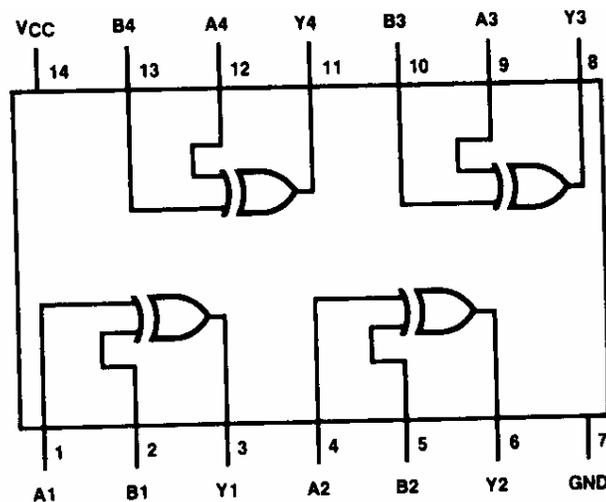
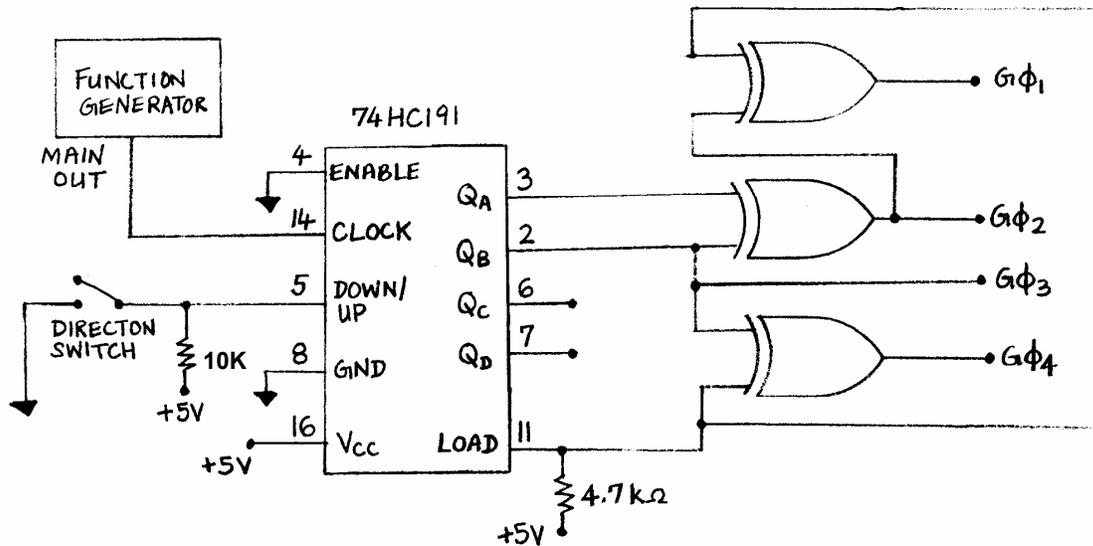

Figure 7: Connection diagram for 74HC86 Exclusive OR chip
Figure 8: Unipolar stepper motor full-step drive circuit
In this experiment, you will use a function generator and an analog drive circuit to control the rate of rotation of a unipolar stepper motor in full-step mode. Your analog drive circuit will consist of a binary counter chip and an exclusive OR (XOR) gate chip. For this laboratory, the XOR gate chip we will use is the **74HC86 Quad 2-Input Exclusive OR Gate** manufactured by *National Semiconductor Corporation*. This XOR gate chip has four XOR gates (Figure 7), but you will only need to use three of them for this Laboratory.
- Build* and connect the circuits shown in Figure 8. Don't forget to provide power ($V_{CC} = +5V$) and ground (GND) to your XOR gate chip.
* Hint: before building the circuit, refer to Figure 7 and select appropriate pins on your XOR chip to implement the logic circuit shown in Figure 8. Write down those pin numbers on Figure 8.
5. Redraw the analog drive circuit shown in Figure 8, but include the pin numbers you used for the XOR gate chip.